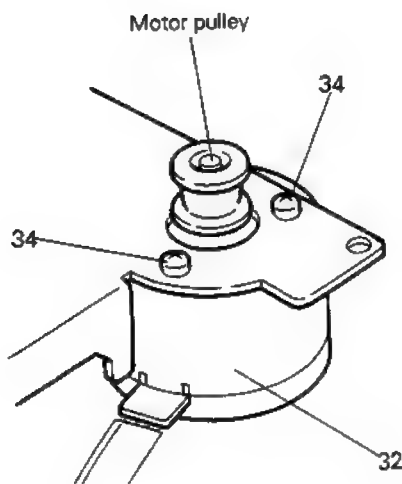

Fig. 7-24
■ Capstan motor and Flywheel (Fig. 7-24 through 7-26)
1. Place the cassette mechanism upside down to expose the bottom. (Fig. 7-24)
2. Remove three screws (37) retaining the FR bracket assembly from the chassis base. (Fig. 7-24)
3. Expand two pawls (B, C) retaining the FR bracket assembly in the direction of the arrow to remove them. (Fig. 7-24)